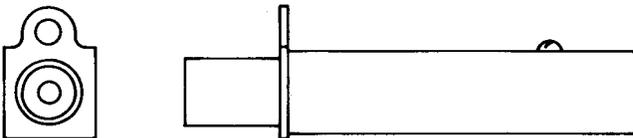

Fig. 16—472B Jack
**2.16 472B:** This single-mounted jack (Fig. 16) has coaxially arranged inner and outer contacts which are mounted in a tubular metal frame which serves as a shield. This jack is tested with 2000 volts ac. The 472B jack is to be used with a 337B plug and KS-13679 coaxial cable. This jack is to be used in the J64061A signal generator and the J64070A power meter in toll systems. This jack replaces the 472A jack.